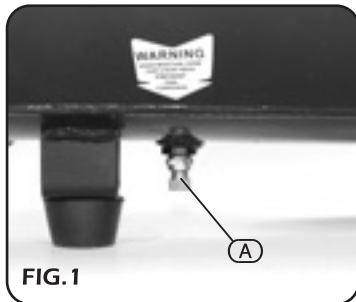

FIG. 1
- **ON/OFF SWITCH (Figs.1 & 2.):**